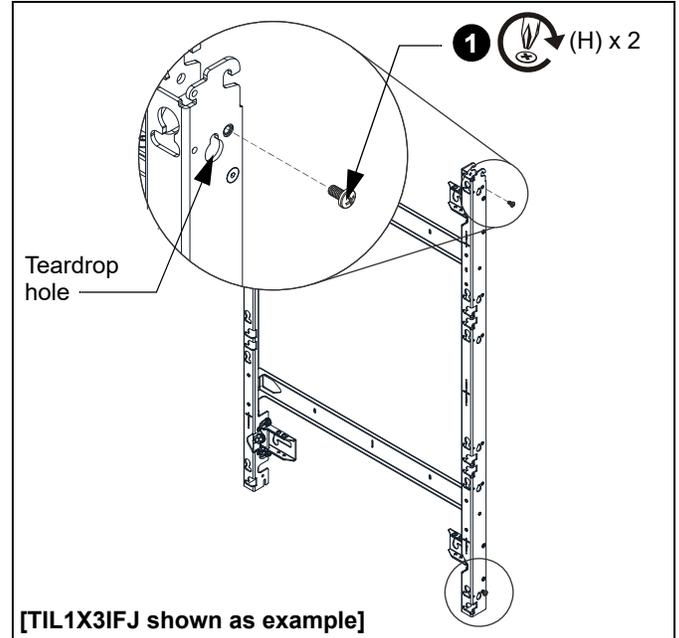

Figure 12
- Partially install two 1/4-20 x 1/2" Phillips head screws (H) into the fastener holes (next to the teardrop holes) at the top and bottom of the mount, and on the side of the mount you want to attach another mount. (See Figure 12)